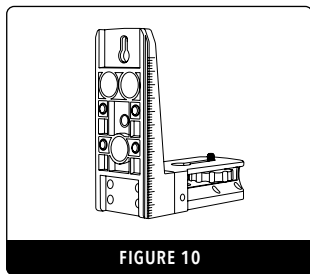

FIGURE 10
- Using the single magnetic mount piece (Fig.10), attach the instrument to the mount using the thumb screw.